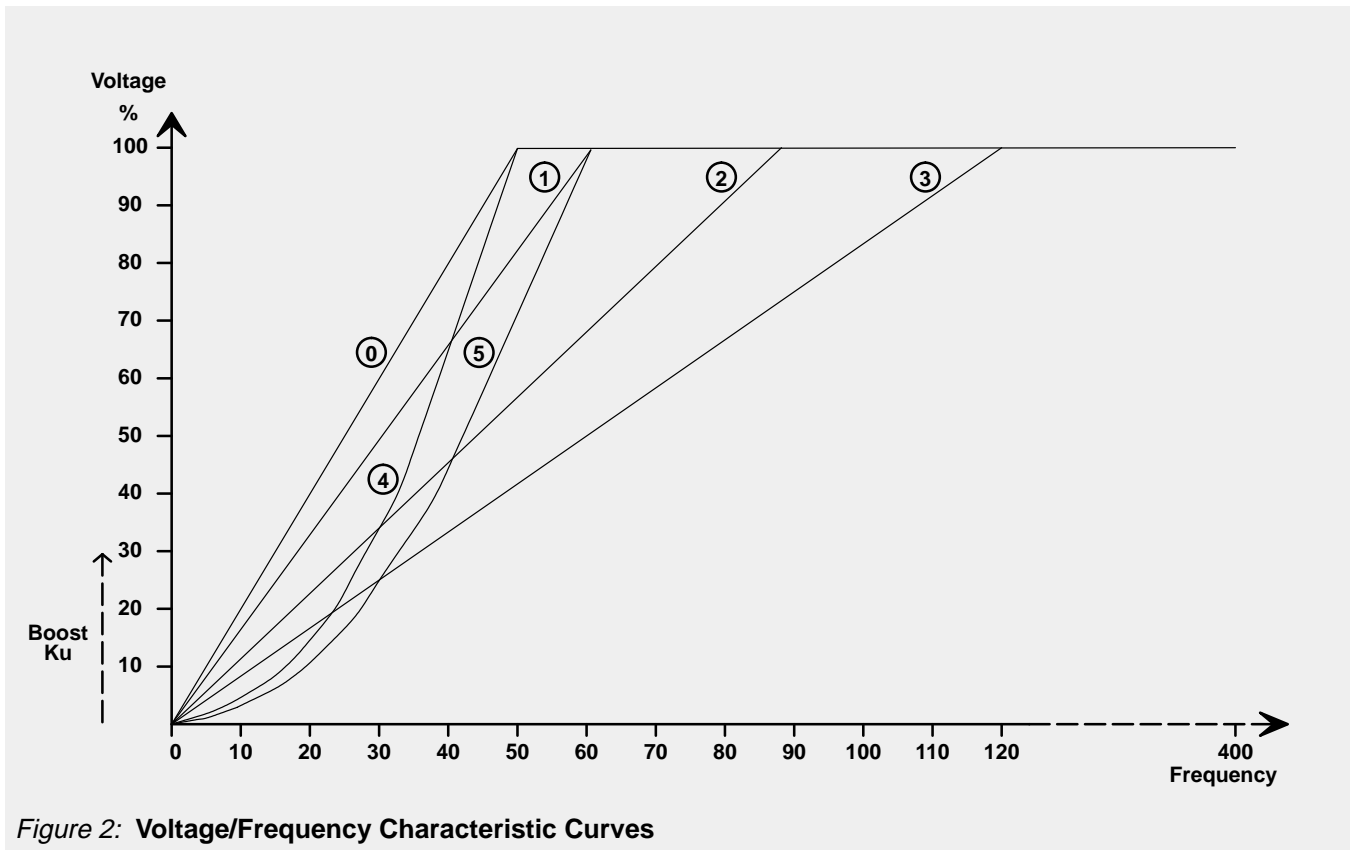

Figure 2: Voltage/Frequency Characteristic Curves
Six voltage/frequency characteristic curves are available plus one programmable curve (see Figure 2). They are intended for the following applications:
- Curve 6*: Programmable (not shown in Figure 2)